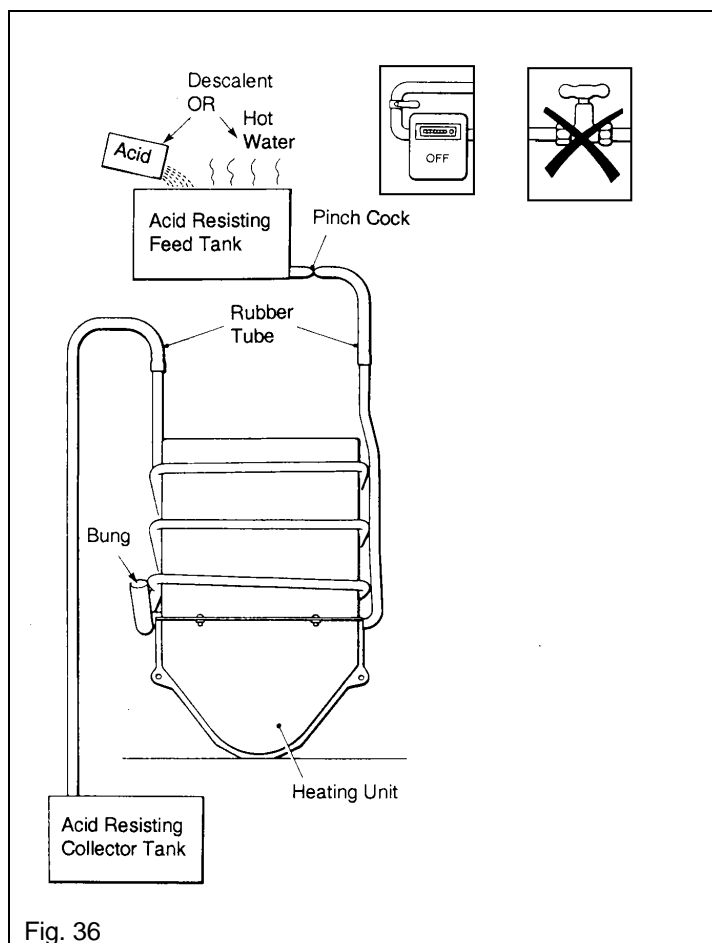

Fig. 36
- Using rubber tube and acid resisting tanks, assemble as shown in fig.36.